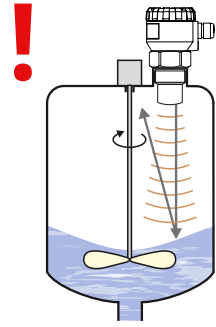

Fig. 10: Intensely stirred surface
- Rotating mixer blades can cause that the surface is stirred, which results in false reflections of the radio signal from the level and unreliable operation of the level meter (Fig. 10). For a rippled or swirling level, you can use the directional horn to eliminate false scattering of the radio signal.